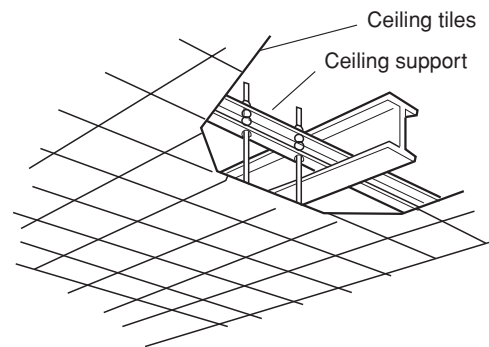

Fig. 3-85
- Use existing ceiling supports or construct a suitable support as shown in Fig. 3-85.